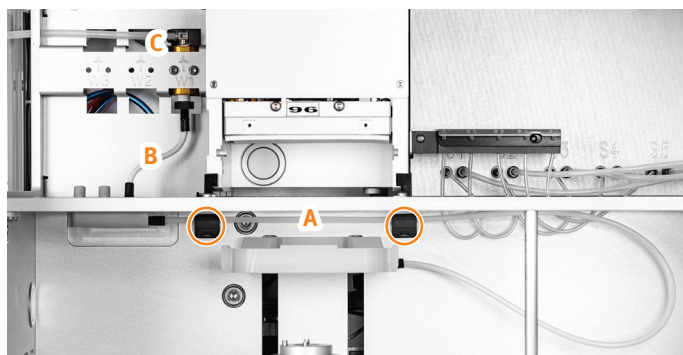

Figure 64. The three waste tubes (A, B, and C). Note the two tube holders/clips above the extraction waste collector.
3. To replace the waste tube connected between the extraction waste collector and the waste manifold (see A in Figure 64):
- g. Unscrew and replace the tube (see A in Figure 64). Ensure to secure the tube in the correct position using the holders/clips that are highlighted.
4. To replace the waste tube between the waste manifold and the waste valve, turn off the vacuum and unscrew and replace the tube (see B in Figure 64).
5. To replace the waste outlet tubing connected between the waste valve and the waste reservoir (see C in Figure 64):
- d. Unscrew and replace the tubing (see C in Figure 64).